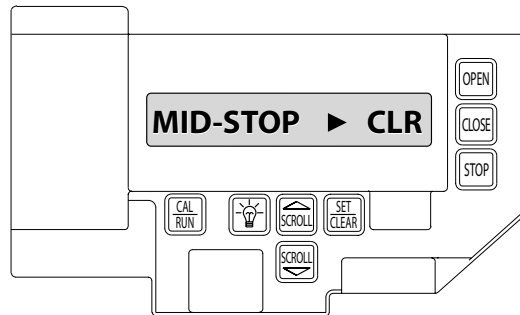

Fig. 11
3. Press SCROLL (up or down) until display reads "MID-STOP > CLR" Fig.11